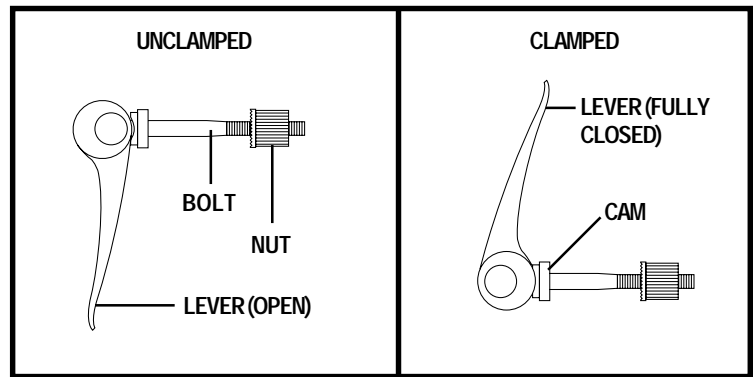

Figure 12. Quick Release Fastener Operation
3. Loosen the quick-release fastener. See figure 12.
7. Tighten and clamp the quick-release fastener. See figure 12.